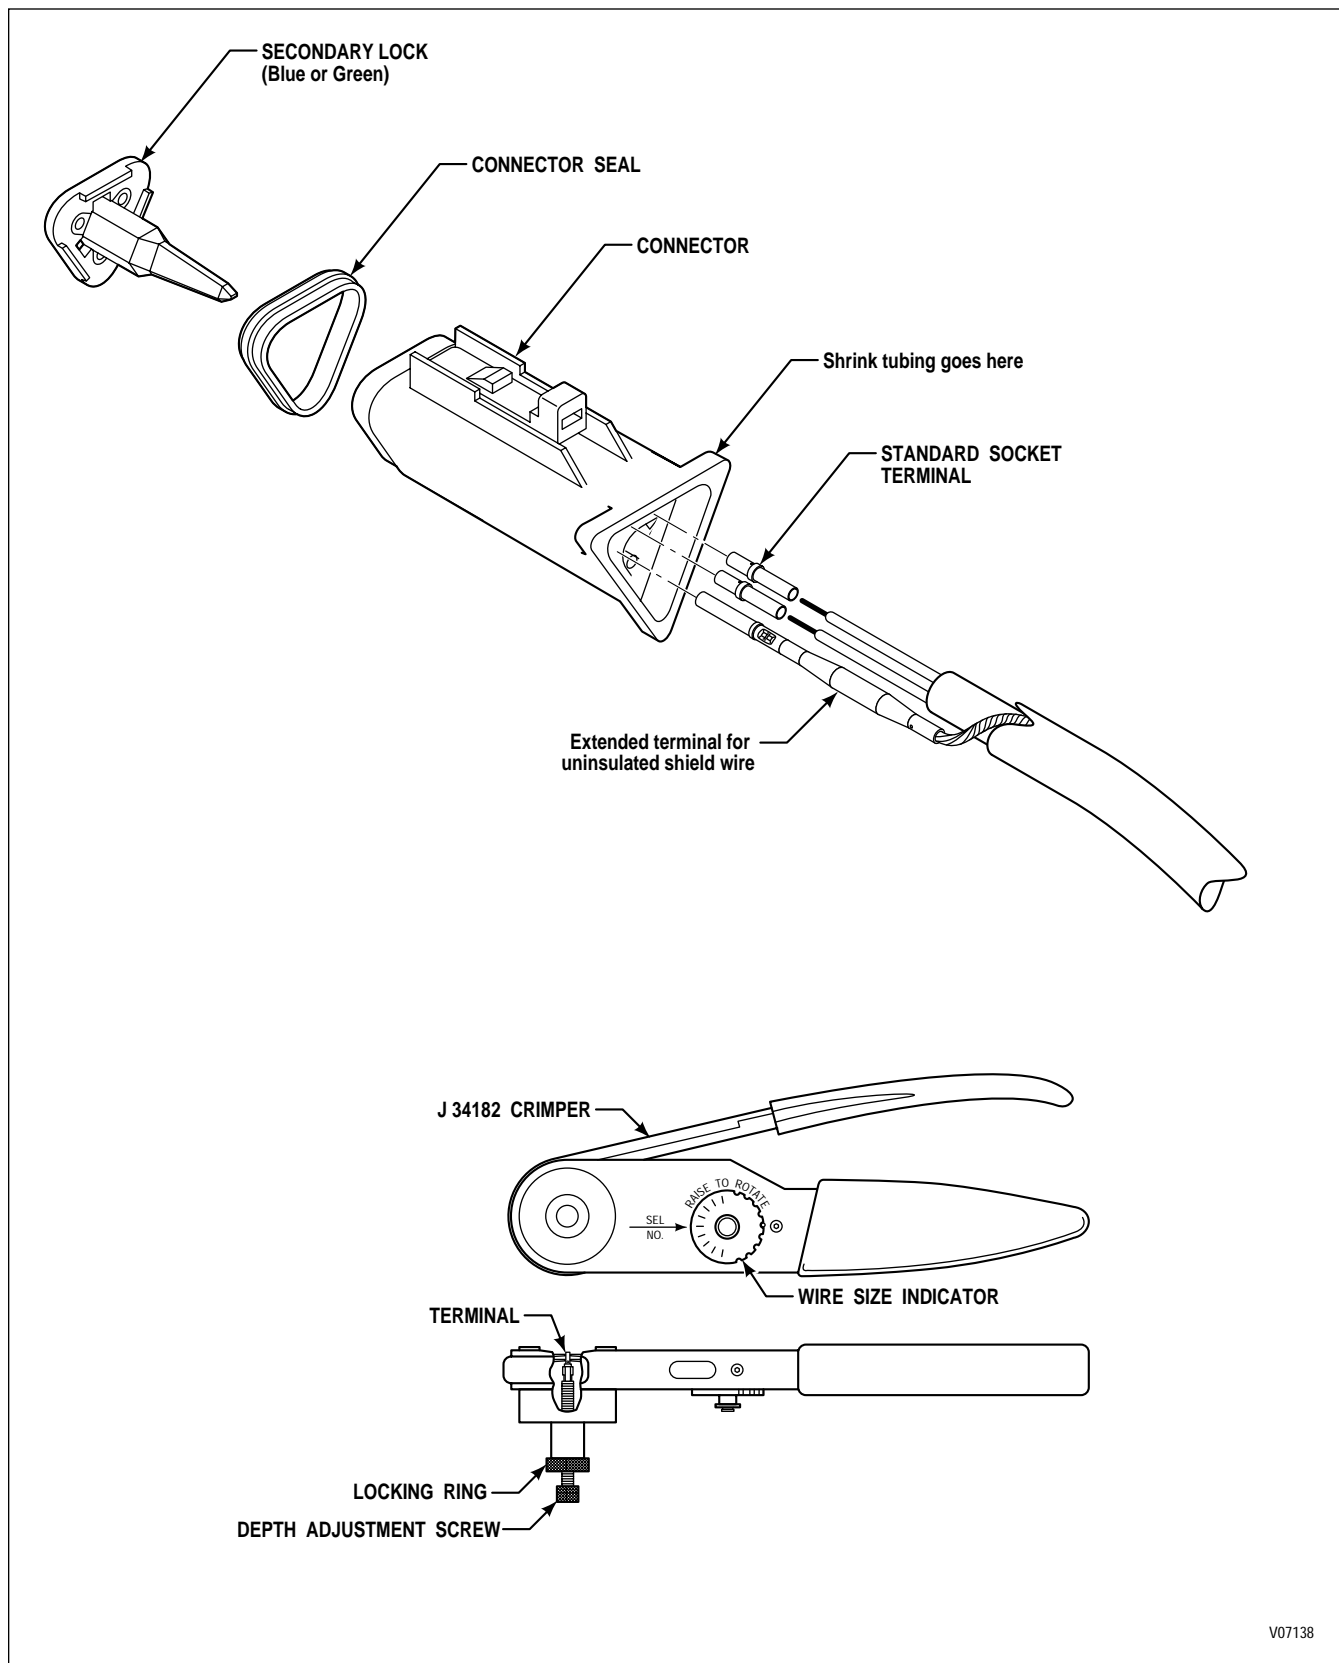

Figure E-13. Deutsch DT Series Connector (3-Way J1939 Interface)
B. Terminal Removal (Refer to Figure E-13)
C. Terminal Crimping (Refer to Figure E-13)
C. Terminal Crimping (Refer to Figure E-13) (*cont'd*)
2. Push the terminal and wire into the connector until it locks into position (refer to Figure E-13). Check the front of the connector to see that the terminal is at the same height as other terminals. Tug on the wire at the rear of the connector to ensure that the terminal is locked in place.